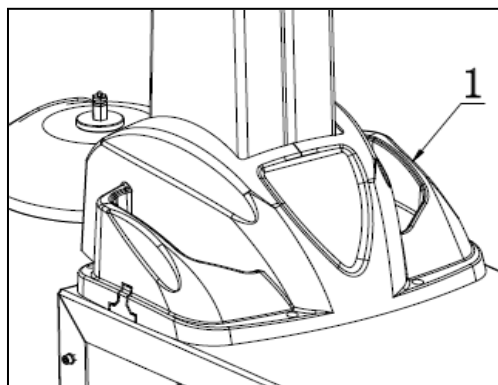

图 14
- g) Installation of the column protective cover: Position the protective cover (FIG14-1) at the upper block of column. Align the hole and install it using 4 pcs M6 screws as shown in FIG14.